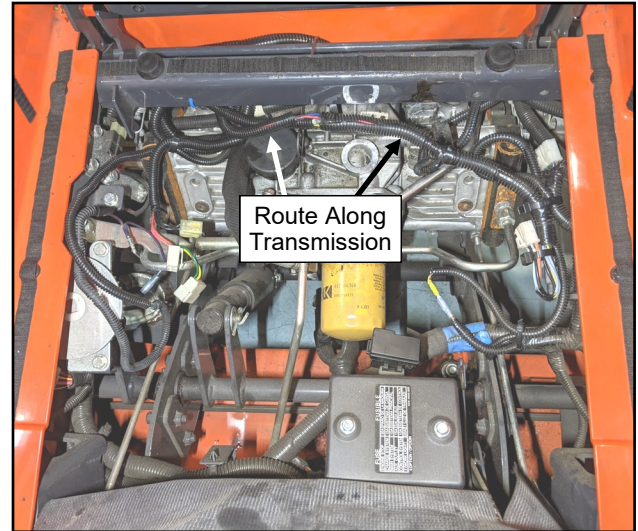

Fig. 7.15 (Route Wiring)
- 7.15 See fig. 7.15. Route the remaining section of the harness with the yellow wire and bullet connector forward from the battery area over the ROPS and up under the seat just like the regulator harness in step 7.4. The harness should run across the top of the transmission along the existing OEM harness and end on the left side of the vehicle.